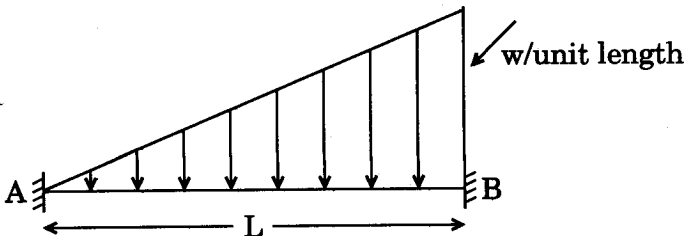

Figure 3
4. Determine the fixed end moments developed in the fixed beam of span L subjected to uniformly varying load as shown in Figure 3. 14